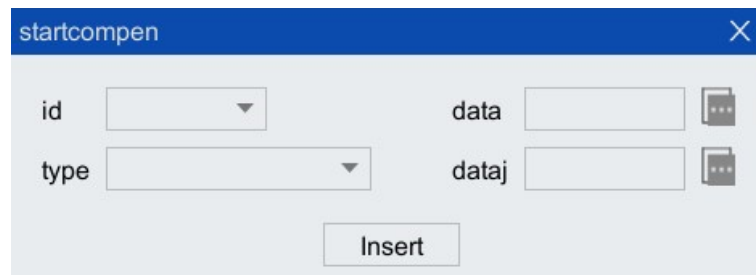

Figure 5-32 [Startcompen] instruction configuration interface
Step1.Click "Insert Cmd > Motion instruction > Tool compensation > startcompen" option in the tool bar of the program editor, and the [startcompen] instruction configuration interface as shown in Figure 5-32 will pop up.